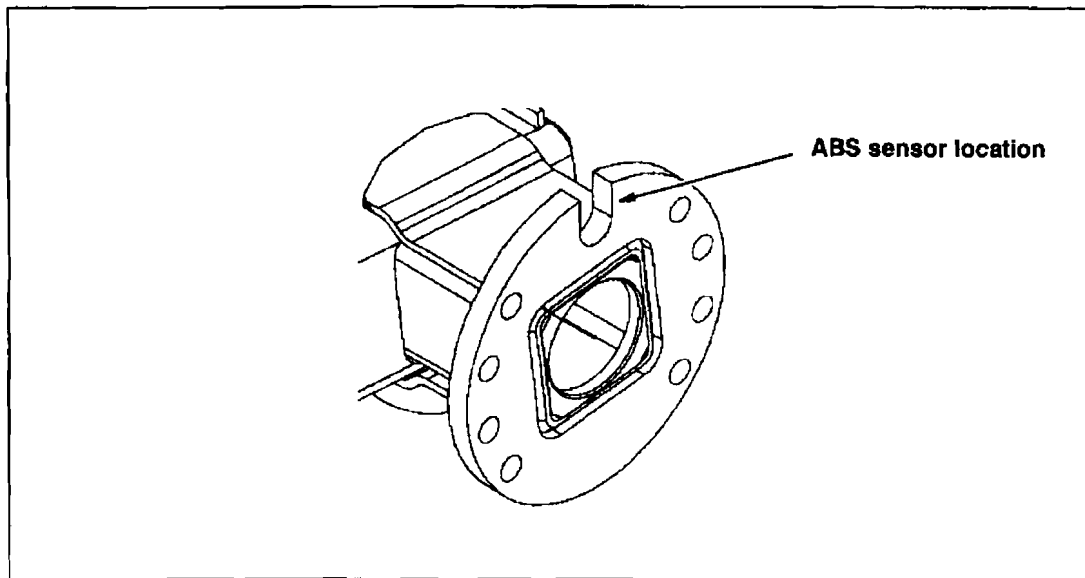

Figure 5.
44. Torque hub cap bolts to 13–15 lb-ft (Figure 5). Fill hub cavity until gear oil (part number 23-01-0029) appears at the level mark of the hub cap's plastic sight glass. Reinstall the rubber plug, and recheck level after coach operation. DO NOT overfill the hubs.